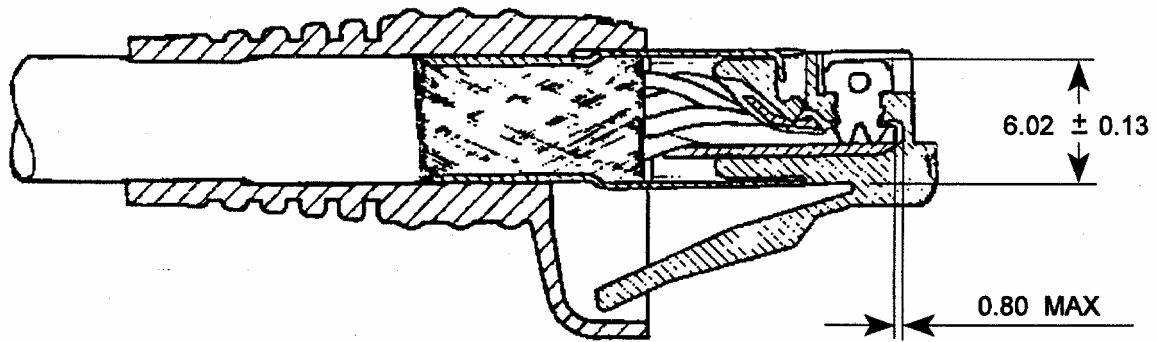

Figure 7: Connector Termination Requirements
- A. Conductors shall be inserted according to dimension specified in Figure 7 (0.80 mm Max.), to ensure a proper electrical interface.
- B. The crimp height shall be  $6.02 \pm 0.13$  and measured as indicated in Figure 7.